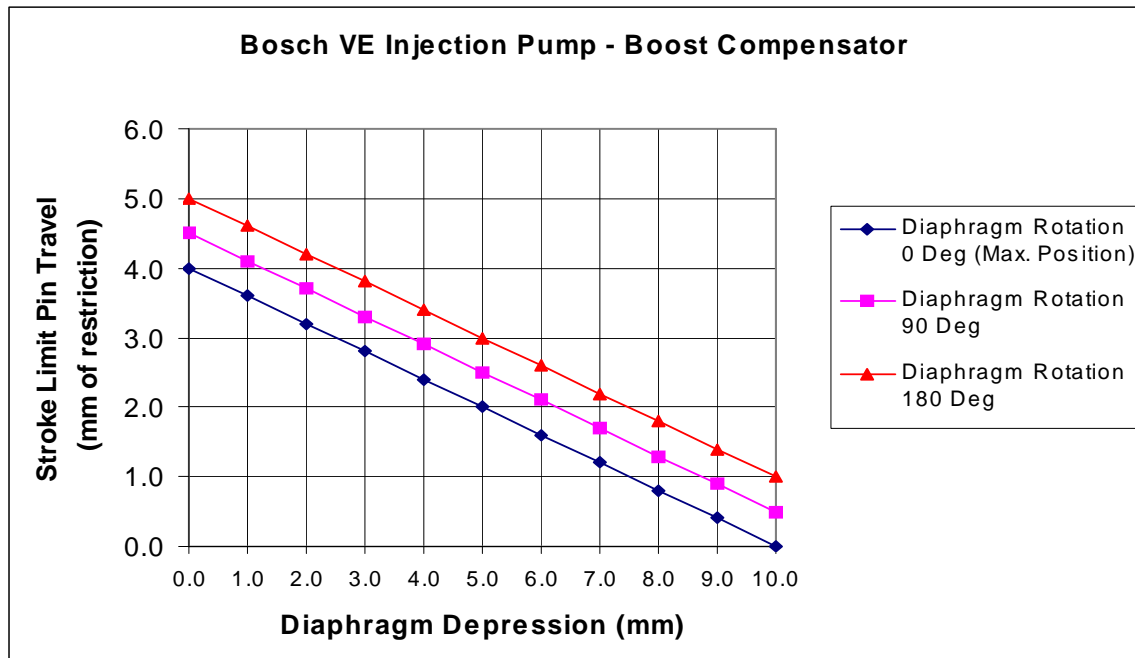

Figure 5
1.6. The chart, Figure 5, shows the approximate relationships between the diaphragm rotational position and it's effect on stroke limit pin position. *[The dimensions listed are approximations to the nearest millimetre from measurements taken from my 13H assembly and should not be taken as precise nor completely accurate.]*
Therefore, as shown in Figure 5, the stroke limit pin will move about 4.0mm as the diaphragm/control cone moves downward over it's 10.0mm of travel. This 4.0mm of travel may be varied from the '0.0 to 4.0mm' range to the '1.0 to 5.0mm' range by rotating the diaphragm up to 180 degrees from the 'maximum' position. As the diaphragm/control cone is symmetrical, it doesn't matter which way it is rotated from the 'maximum' position. Also note that 180 degrees of rotation ( $\frac{1}{2}$  turn) represents the full range of adjustment available.